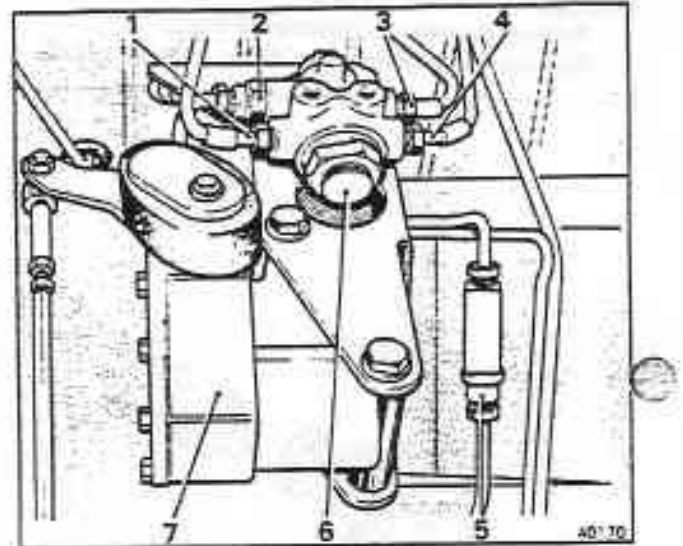

Fig. G14-1 Minimum pressure valve
On cars from the following vehicle identification numbers an adjustable minimum pressure valve, in conjunction with a new height control valve arrangement was introduced (see figs. G12-2 and G14-2). However, there are a small number of cars that have this arrangement fitted prior to the numbers listed. Furthermore, there are cars that have the non-adjustable minimum pressure valve fitted (see fig. G14-1) with the latest height control valve (see fig. G12-2).
### Minimum pressure valve - To remove (see fig. G14-1)
**Minimum pressure valve - To fit** (see figs. G14-1 and G14-3)